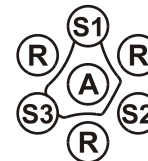

Figure 2.
- 1. Negative:** The reference positive control lines continue into the test sample well without bending or with a slight bend away from the antigen well (A) and toward the positive control serum (Figure 2, S1, negative sample).
- 2. Positive:** Control lines join with and form a continuous line with the line between the test serum (S2) and antigen (A) (Figure 2).
- 3. Weak Positive:** The reference positive control lines bend slightly toward the antigen well (A) and away from the reference positive control serum wells (R) but do not form a complete line between antigen (A) and test serum (S3) (Figure 2). These reactions require careful observation and can be easily overlooked. All weak positive samples should be retested before reporting the results.